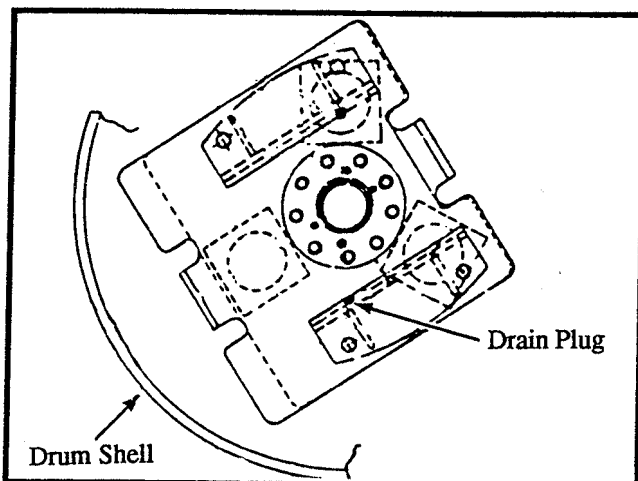

Figure 13-3. Eccentric Drain Plug Position
The eccentric bearings are splash lubricated with oil contained in the eccentric housings. Refer to Figures 13-3 and 13-4. The eccentric oil is to be changed after the first 50 to 100 hours of operation during the initial break-in period. Thereafter, all SD-70DA machines serial number 5512 and above should have the oil changed every 1000 hours. SD-70DA machines serial number 5511 and below should have the oil changed every 500 hours. Refer to Section 12 - 500 Hour or Semiannual Routine Maintenance of this manual for this oil change procedure.
2. Position the drum so one of the two eccentric plugs is in the 6 o'clock position. Refer to Figure 13-3.